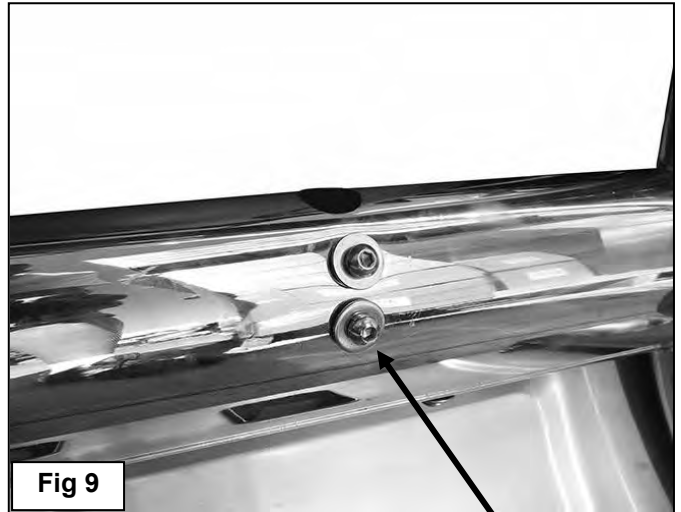

Fig 9
- a. Insert the included (4) 6mm x 20mm Button Head Bolts, (4) 6mm Lock Washers and (4) 6mm Flat Washers into the threaded inserts in the back of the crossbar to plug the holes, **(Figure 9)**. Tighten hardware. Installation is complete.**If aftermarket lights will be installed, (lights not included):**